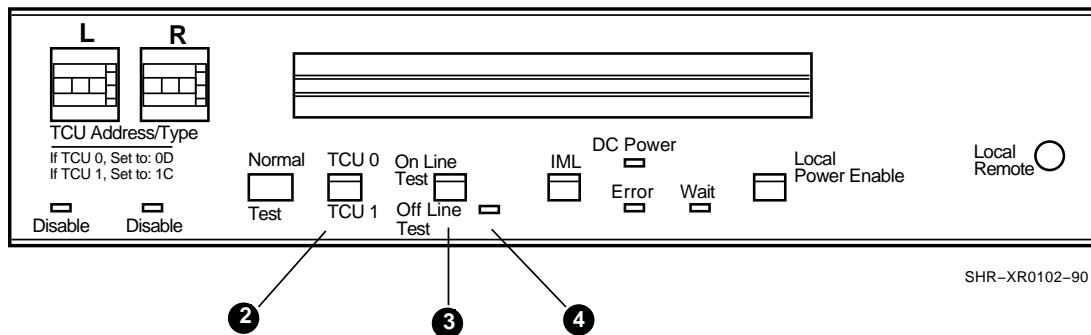

Figure 2-7 On Line Test/Off Line Test Switch, TCU0/TCU1 Switch
The TCU 0/TCU 1 switch ② identifies the tape control unit (Figure 2-7). This switch is set to TCU 0 at installation and should not be changed after the subsystem is installed.
The position of the On Line Test/Off Line Test switch ③ determines whether the tape control unit can communicate with the controlling computer (Figure 2-7).